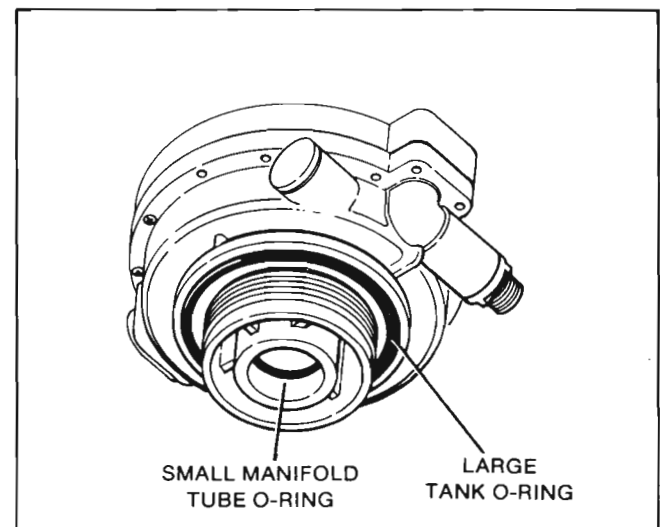

Figure 3. Location of O-rings in Control Valve
2. Check that both the large, tank-sealing O-ring and the small manifold tube O-ring are in place in the valve. See Figure 3.